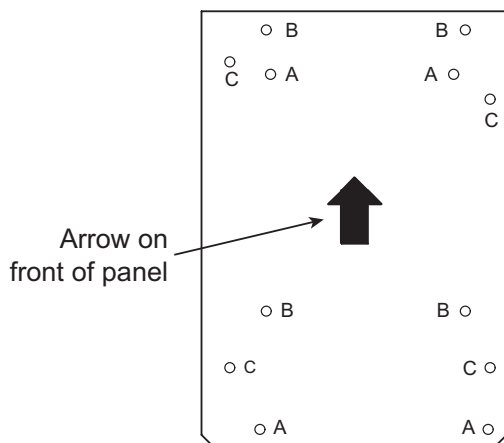

Figure 1 – Mounting Panel
5. Position the provided mounting panel with the arrow on the front of the panel pointing up. Position the replacement 50A66-843 ignition control board over the holes marked "A" in figure 1. Insert the replacement control stand-off fasteners into the holes in the mounting panel.
6. Insert the four provided stand-off fasteners into the back of the mounting panel in the holes marked "B" in figure 1. Insert the replacement control board assembly into the existing holes in the control box or blower panel.
7. Insert provided circuit breaker in series between the blue transformer wire connecting position 3 on the 12-pin connector to the transformer (TH), optional 4" blue wire provided for transformers that have a quick-connect terminal.
4. A. **When replacing original 63K8901 board in upflow or horizontal applications or downflow applications** – Look at the existing control board holes as if the unit were installed in the upflow position. Make a mark 1" to the right of each of the existing mounting holes. Position the provided mounting panel so that the holes marked "C" in figure 1, page 3 are
- B. **When replacing original 63K8901 board in downflow applications** – Look at the existing control board holes as if the unit were installed in the upflow position. Make a mark 5/8" ABOVE each of the existing mounting holes. Position the provided mounting panel so that the holes marked "C" in figure 1, page 3 are over the marks. Use the mounting panel as a template to drill 3/16" holes through each of the holes marked "A". Install the replacement control in the freshly drilled holes in the blower access panel. Use aluminum tape to seal the unused holes.
- C. **All other units** – Position the provided mounting panel so that the arrow on the front of the panel is pointing up. Position the replacement 50A66-843 ignition control board over the holes marked "A" in figure 1, page 3. Insert the replacement control stand-off fasteners into the holes in the mounting panel.
- 80UHG, 90UGF, G23, G26, GHR26, G32, GHR32, G40, G41, G50, G51, G60 and G61 units** – Insert the four provided stand-off fasteners into the back of the mounting panel in the holes marked "B" in figure 1.
- 80MGF, G24M and G27M units** – Insert the four provided stand-off fasteners into the back of the mounting panel into the holes marked "C" in figure 1. Insert the replacement control board assembly into the existing holes in the control box or blower panel.